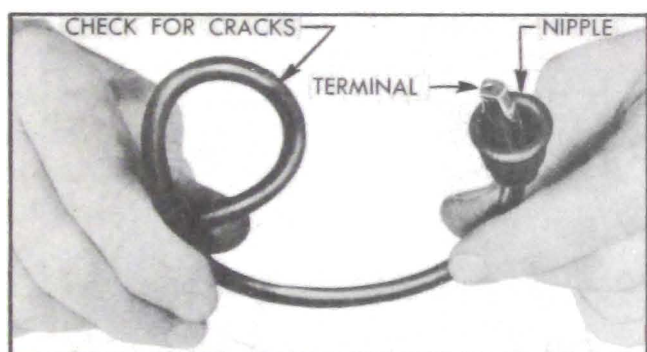

Figure 10-71—Inspection of Ignition Cable
2. Wipe ignition cables with cloth moistened with kerosene, and wipe dry. Bend cables to check for brittle, cracked, or loose insulation. See figure 10-71. Defective insulation will permit missing or cross firing of engine, therefore defective cables should be replaced.